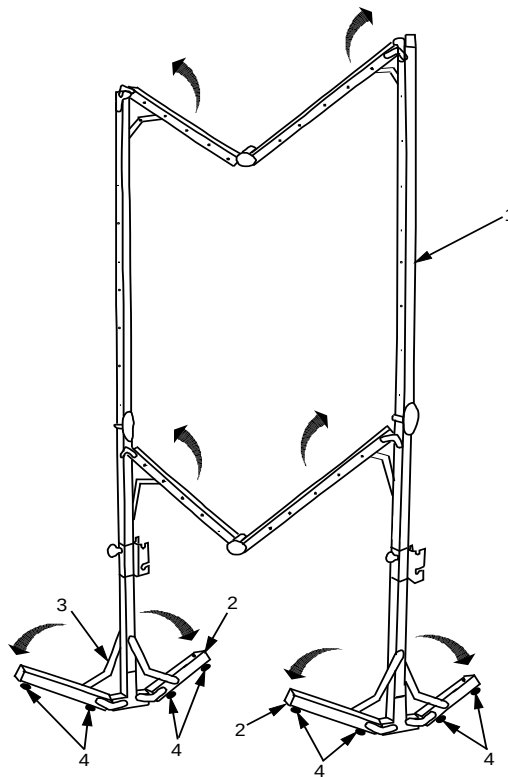

Figure 2. Expand Screen Frame.
4. Extend four folding legs of frame (2). Ensure folding leg support braces (3) are locked (see Figure 2).
5. Use the rubber feet (4) on the folding legs (2) of screen frame (1) to compensate for uneven floor surface.
7. Secure the lower support crossbar (6) to the screen frame (1) by removing the eye bolts (7) on each side of the screen frame (1), placing the lower support crossbar (6) into position, and replacing the two eye bolts (7) (see Figure 2).